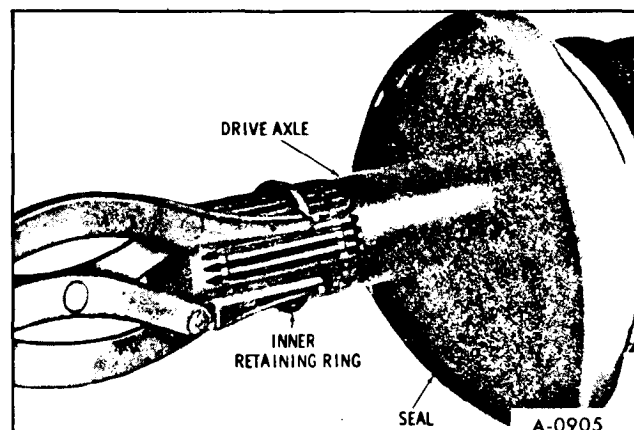

Figure 24—Removing Inner Retaining Ring
6. Remove retaining ring (inner) from axle shaft using Tool J-5586. (figure 24)